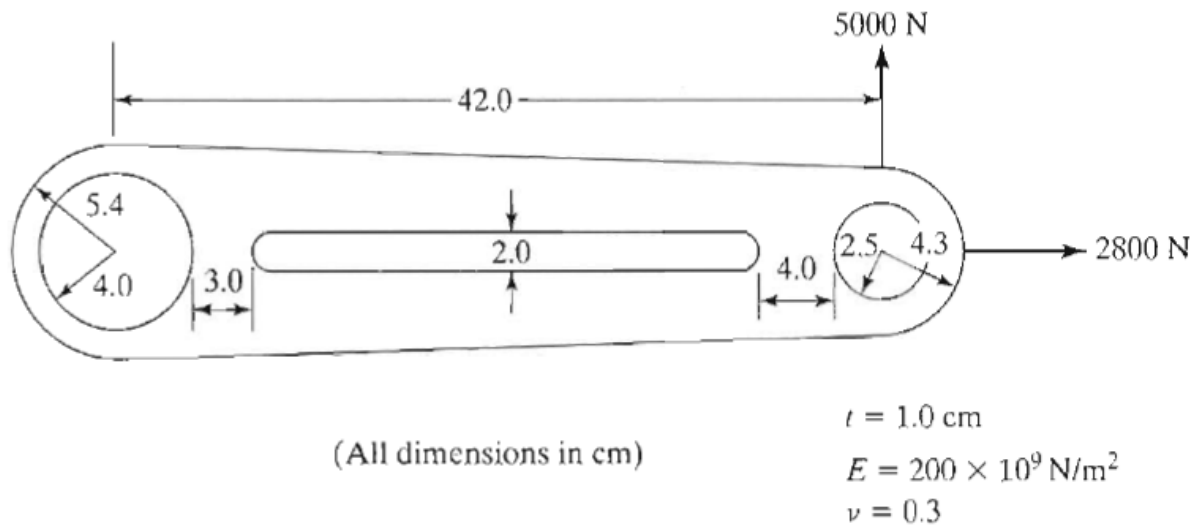

Figure 1
**Problem 1:** For the torque arm shown in Figure 1, determine the following: